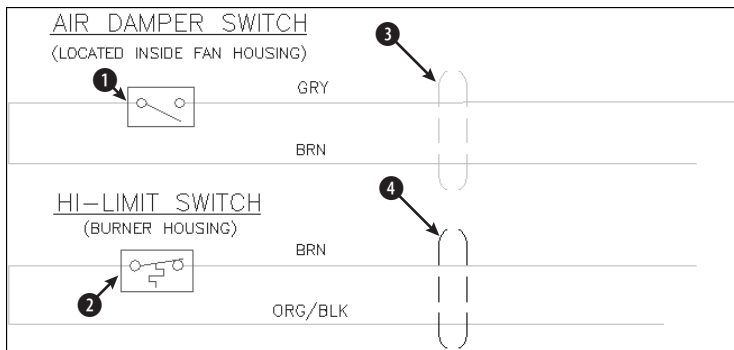

Figure 18-13: The electrical schematic has several blocks that have been inserted.
2. Save the file as `ab18-05.dwg` in your AutoCAD Bible folder. This is the same electrical schematic used in the previous exercise, except that the objects are now blocks that have been inserted. (See Figure 18-13.) OSNAP should be on. Set running object snaps for endpoint, midpoint, quadrant, and intersection. The current layer is Object.
3.  Choose **Explode** from the Modify toolbar. At the `Select objects:` prompt, choose the air damper switch at ① in Figure 18-13. Press `Enter` to end selection. The switch turns black or white (the opposite of your screen color) because it was created from objects whose color and linetype were set to `ByBlock`.
6. Choose the hi-limit switch at ②. Choose **Explode** from the Modify toolbar. AutoCAD explodes the block onto the `Object` layer because these objects were created on that layer with their color and linetype set to `ByLayer`.